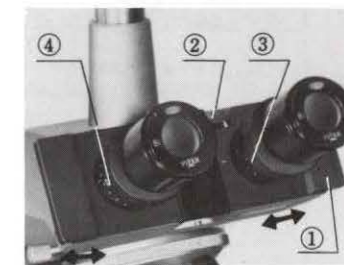

Fig. 6
- (1) Hold the knurled dovetail slides ① of the right and left eyepiece tubes with both hands and push the tubes together, or pull them apart laterally, whichever is required, while looking through the eyepieces with both eyes, until perfect binocular vision is obtained. (Fig. 6)